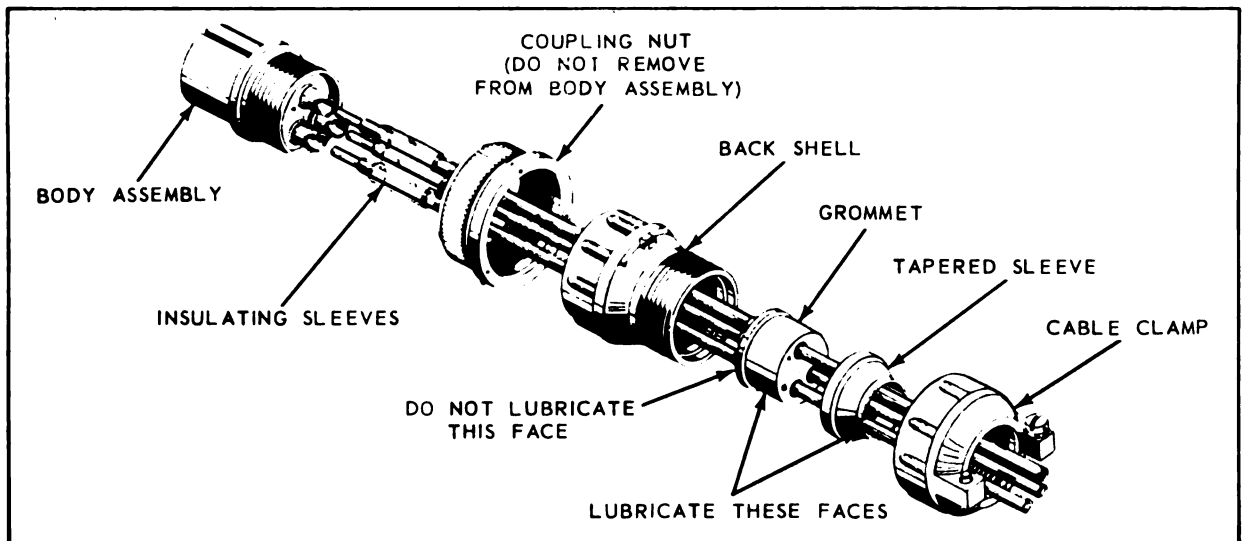

Figure 3-58. Installation of Bendix Class E Connector
- b. Check tapered sleeve and grommet for thin film petrolatum lubricant on indicated surfaces. (See figure 3-58).